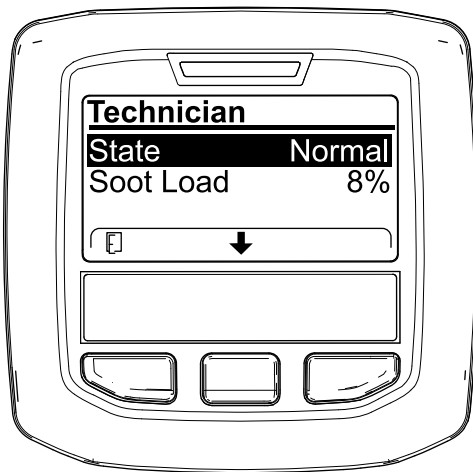

Figure 56
- Use the DPF operation table to understand the current state of DPF operation (Figure 56).